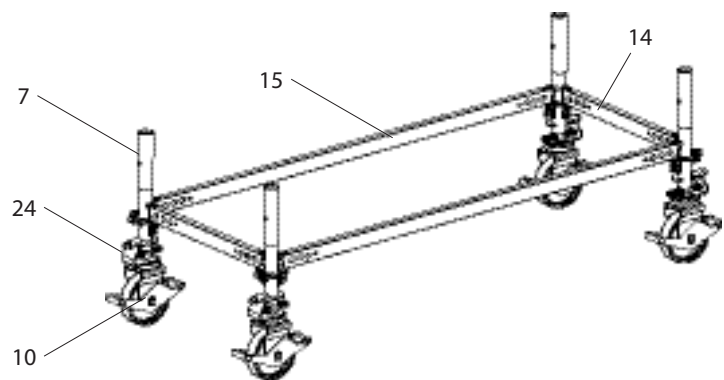

Fig. A3.01
1. Assemble the base standards (7) with horizontal ledgers (14 + 15) to form a frame.
2. Raise the frame and insert the castors (10) into the base standards.
3. Secure the castors with spindle locking (24) to prevent them from falling out. (Fig. A3.01)